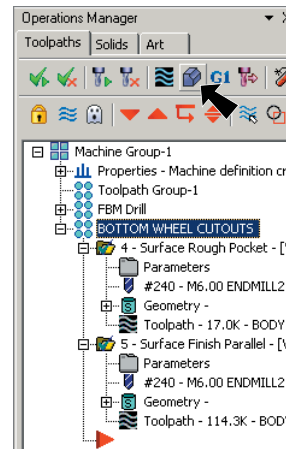

Fig. 48
Step 2. In the Toolpaths Manager, click the **BOTTOM WHEEL CUTOUTS Toolpath group** to select both cutout toolpaths, **Fig. 48**.